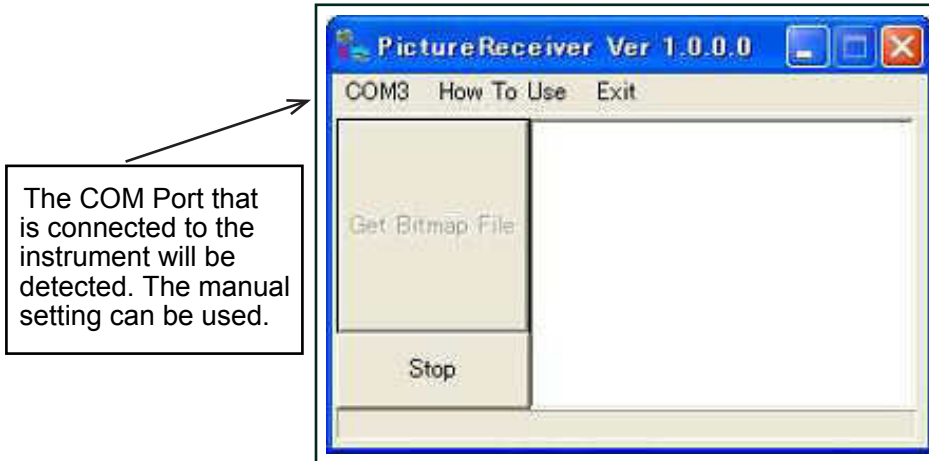

Figure B-3, Picture Receiver
2. Go to the location on the hard drive of the PC where the PictureReceiver.exe was saved and double-click on it so that the file begins setup. Refer to Figure B-3.
3. During the installation procedure the COM port that is connected to the instrument should be detected. If another COM port is desired, the setting may be changed manually. Refer to Fig. B-3.